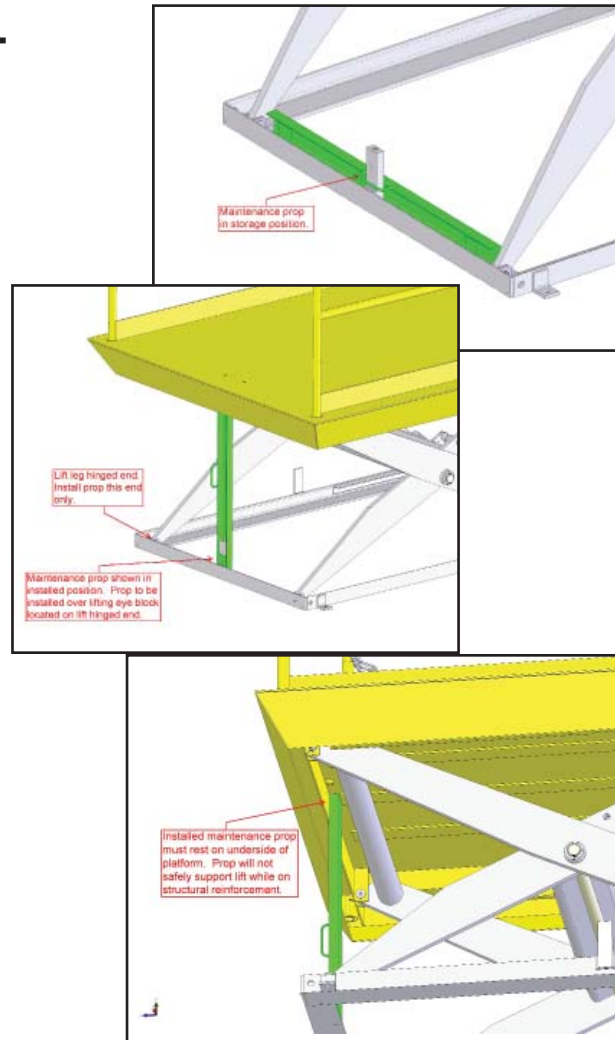

Figure 1 – Safe Servicing of Lift
3. Remove the maintenance device(s) from its/their storage location and place it/them into the engaged position as shown in Figure 1. (Note: further information may be useful here to provide additional instructions as to the location and method of storage and engaged positions).
Raise and chock the lift, as shown in Figure 1.
When adjusting the flow control, always raise the dock lift and insert the maintenance chocks, as shown in Figure 1. Do not try to adjust the flow control while pressing the “down” button. If you try this, the dock lift may drop suddenly, and you may be hurt.
chocks, as shown in Figure 1.
- Every time you want to change the adjustment again, raise the table again and insert the maintenance chocks as shown in Figure 1.